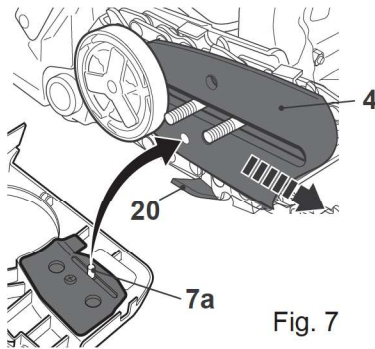

Fig. 7
- > Make sure the chain is placed above the chain catcher (20) (Fig. 7).
- > Pull the guide bar (4) carefully towards the right to pre-tighten the saw chain (3) (Fig. 7)